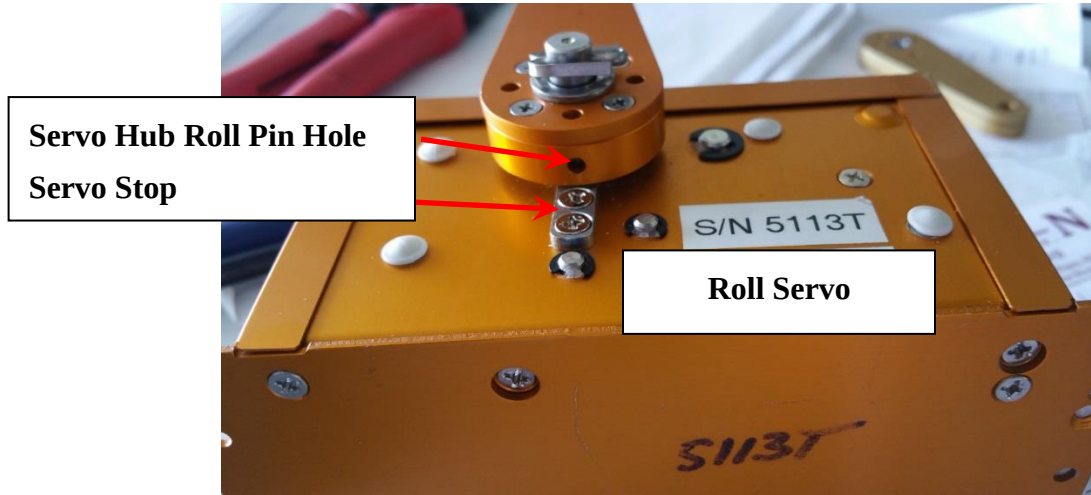

FIGURE 2-4 SERVO HUB ROLL PIN ALIGNMENT
2. Install the hardware provided onto the servo hub. Refer to Figure 2-4.